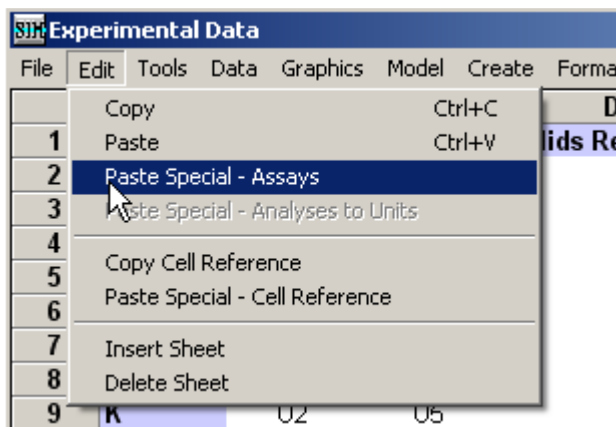

Figure 7. Pasting assays.
4. In HSC Sim go to the Experimental data and select Edit – Paste Special – Assays” (Figure 7).